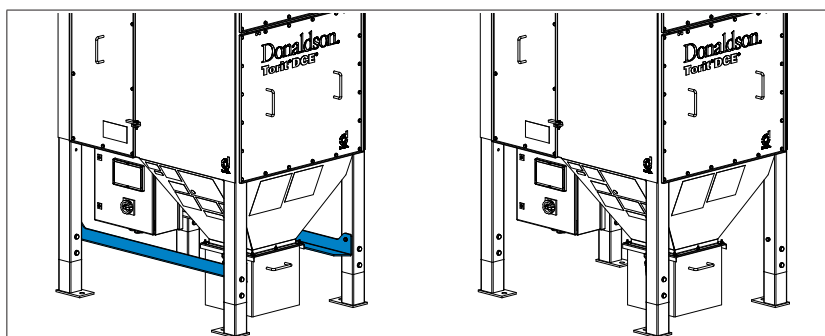

Figure 6: Removal lifting profiles
*The lifting profile can be removed after securing the collector, see figure 6. Store the profiles for eventual future use.*